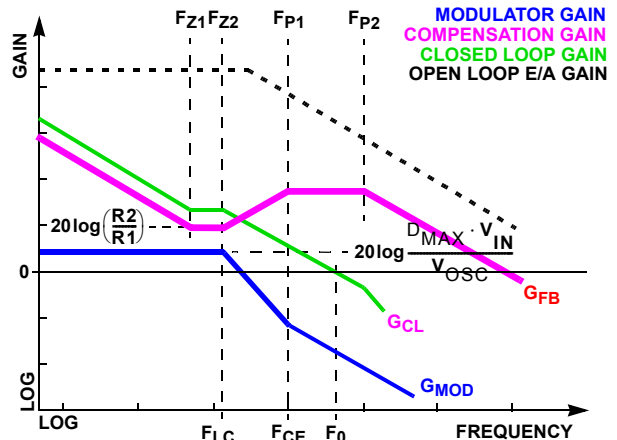

FIGURE 8. ASYMPTOTIC BODE PLOT OF CONVERTER GAIN
Figure 8 shows an asymptotic plot of the DC/DC converter's gain vs frequency. The actual Modulator Gain has a high gain peak dependent on the quality factor (Q) of the output filter, which is not shown. Using the previously mentioned guidelines should yield a compensation gain similar to the curve plotted. The open loop error amplifier gain bounds the compensation gain. Check the compensation gain at F_{P2} against the capabilities of the error amplifier. The closed loop gain, G_{CL} , is constructed on the log-log graph of Figure 8 by adding the modulator gain, G_{MOD} (in dB), to the feedback compensation gain, G_{FB} (in dB).